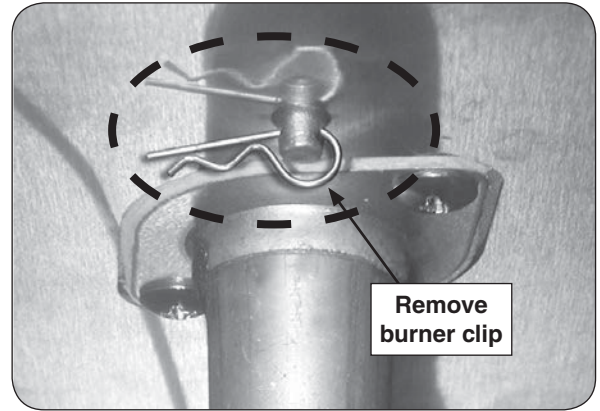

Fig. 32-1 Remove burner clip
3. Reach up under the burner support and remove the burner retaining clip (see Fig. 32-1), located at the rear of the burner pipe.
7. Replace the burner retaining clip (underneath burner). Reference Fig. 32-1.